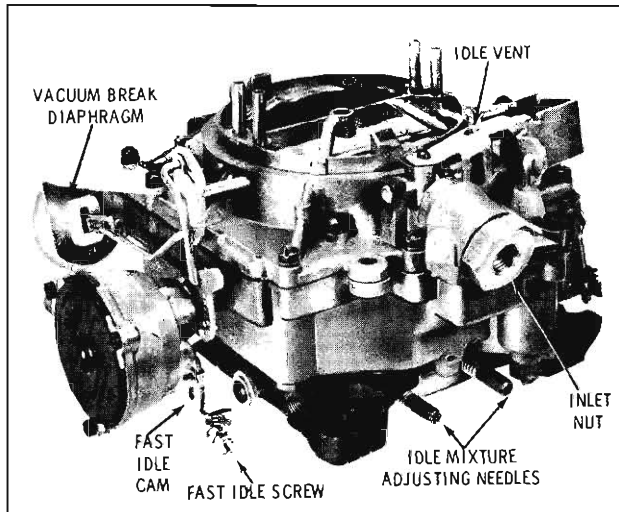

Fig. 4-153 4GC Carburetor
1. Remove the fast idle cam attaching screw. (Fig. 4-153)